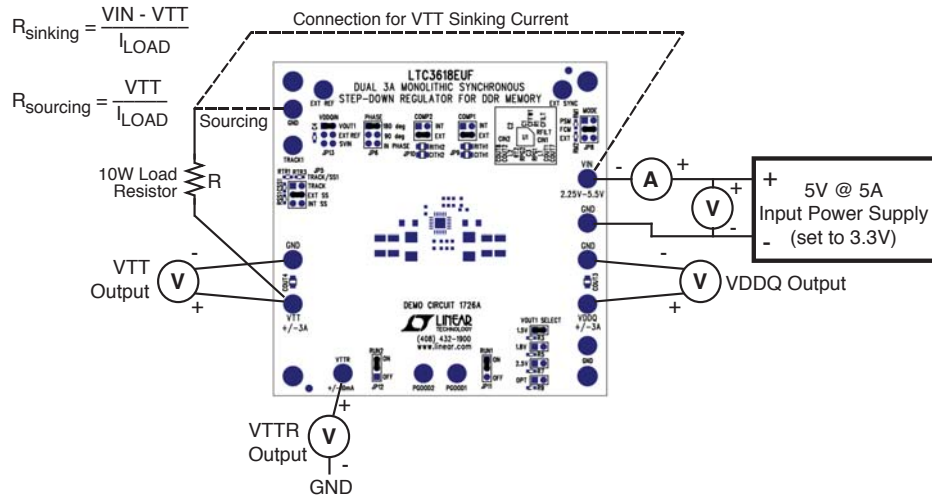

Figure 2. Proper Measurement Equipment Setup
Demonstration circuit 1726 allows the user to quickly evaluate the performance of the LTC3618. Refer to Figure 2 for proper measurement equipment setup and follow the procedure below
- With the input power supply turned down and switched off, connect the supply and digital voltmeters as shown in Figure 2.
- To evaluate sourcing current from VDDQ or VTT outputs, connect a suitable 10W load in series with an ammeter between each output terminal and ground. Resistor. See Figure 2 for resistor connections and resistor value equation. Verify that the output voltages still meet the specifications shown in the Performance Summary section.